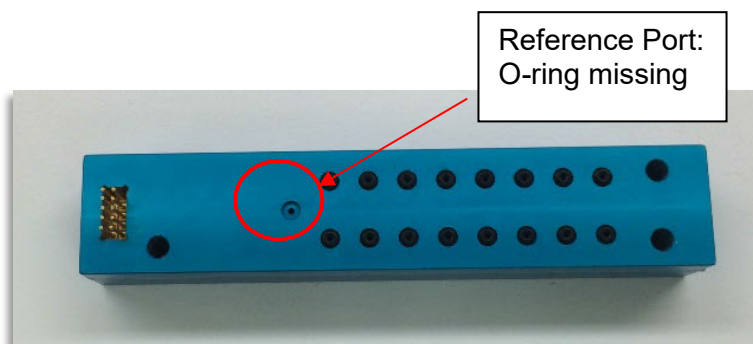

Figure 7: Module with O-rings
**Step 5:** Replace all O-rings using appropriate O-ring (PN# 3, 4) that has been properly lubricated. **It is important to install O-ring in the reference port even if an absolute unit is being used to avoid moisture collecting in internal cavity (see Figure 7).** Kulite suggests Krytox GPL 203 as an o-ring lubricant.